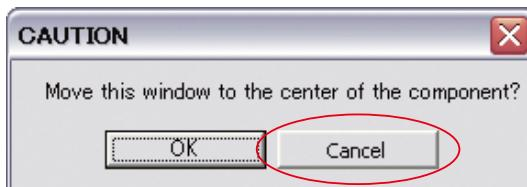

Figure 1-64 Dialog of ImageMatchEx
- Step3: Press **Add** in the lower side of the window. The window shown in Figure 1-64 appears and press **Cancel**. The image surrounded by inspection window appears.